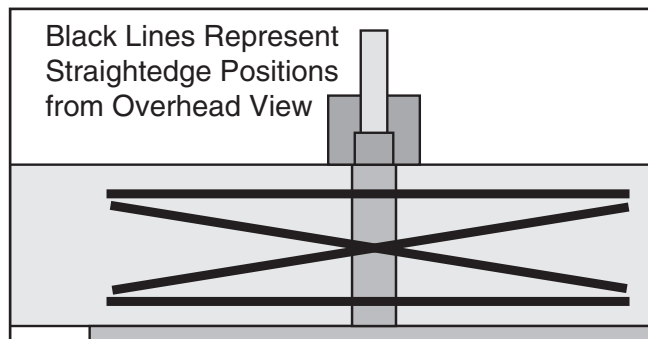

Figure 53. Straightedge positions for checking infeed/outfeed table parallelism.
5. Place straightedge in positions shown in **Figure 53**. In each position, straightedge should sit flat against both outfeed table and infeed table.